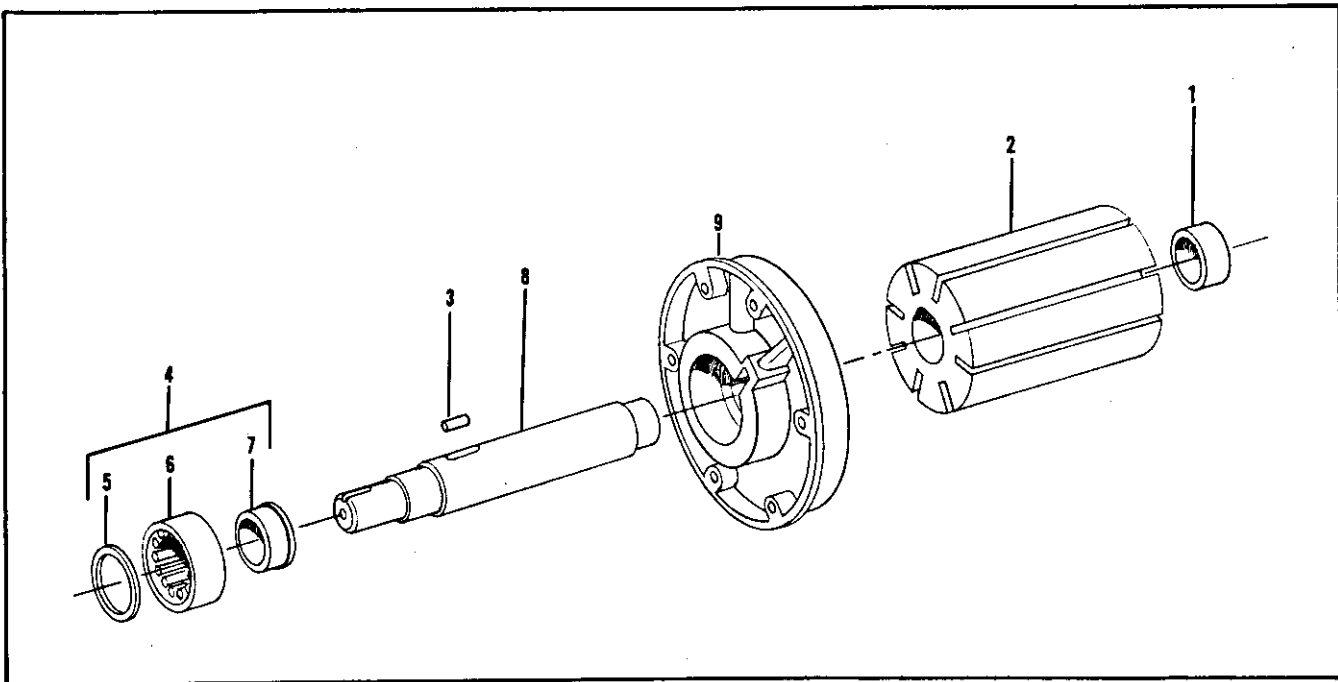
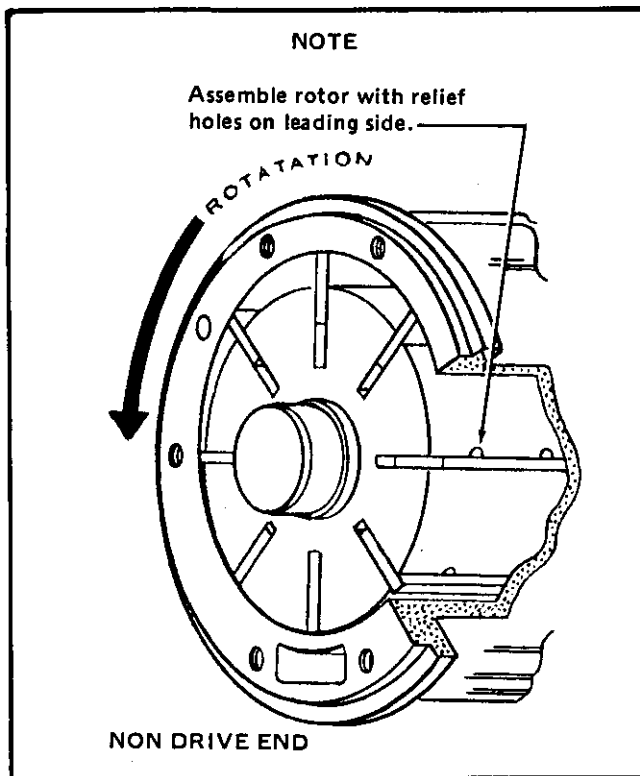

Figure 3-5. Rotor Assembly
Figure 3-6. Compressor Rotor Installation
- a. Disassemble rotor and drive end cover assembly, refer to figure 3-5.
3-8. AIR COMPRESSOR REASSEMBLY. The reverse of disassemble, refer to figure 3-5 and 5-7).
- b. Heat bearing inner races (1, 7, Figure 3-5) evenly in cooking oil to a maximum of 350°F.
- c. Install inner race (7) on shaft to shoulder.
- d. Assemble outer race (6) and spacer (5) on bearing inner race.
- e. Press bearing and shaft into cover (9).
- f. Place key (3) into shaft and slide rotor on to shaft, make sure relief slots on rotor are leading in the direction of rotation (Fig. 3-6).
- g. Install heated inner race (1) on to shaft to shoulder.